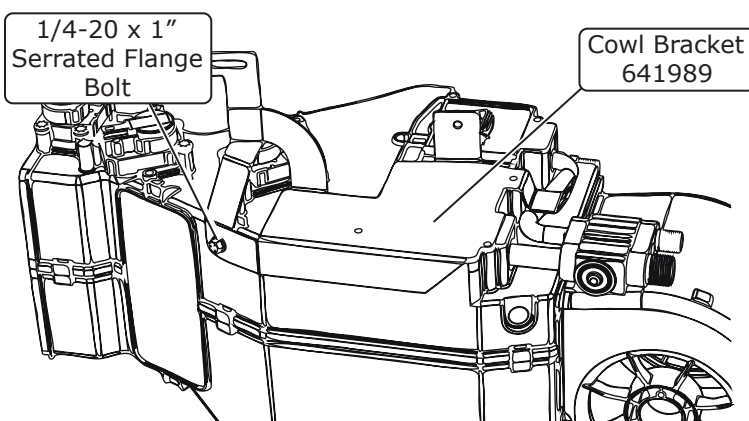

Figure 4
3. Install the supplied cowl bracket onto the module (See Figure 4, below). Secure the bracket with a supplied 1/4-20 x 1" serrated flange bolt into the well nut, then reinstall the ECU. **NOTE: Do not tighten ECU mounting screws yet.**